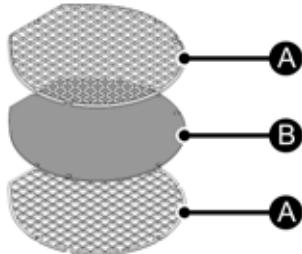

Fig. 17 - air filter.
- » Check that the wiring box is properly closed and positioned correctly in its lodging, and the spring tightened. The box must have the surface of the cover resting on the two surface locators as pointed out in Fig. 17
ATTENTION: never enable the humidifier without the air filter fitted! The air filter is composed of three pieces that must be assembled in such a way that the filter material B is enclosed between the two plastic grids A (Fig. 17).